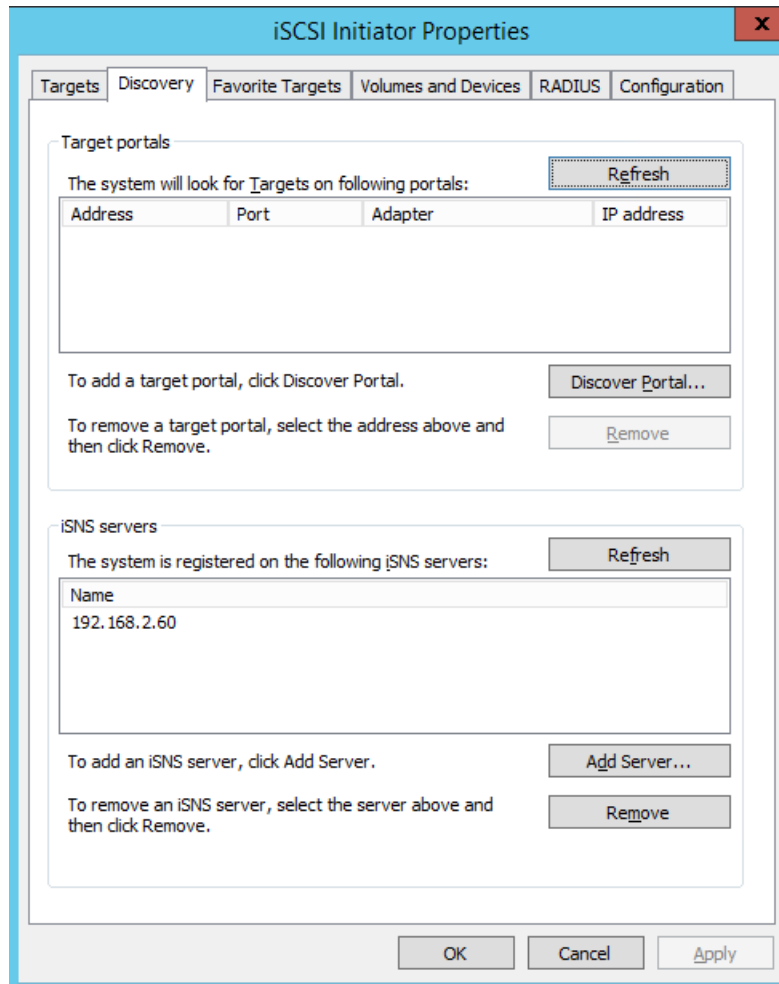

Figure 10-3. iSCSI Initiator—Discover Target Portal
4. On the Discovery page (Figure 10-3) under **Target portals**, click **Discover Portal**.